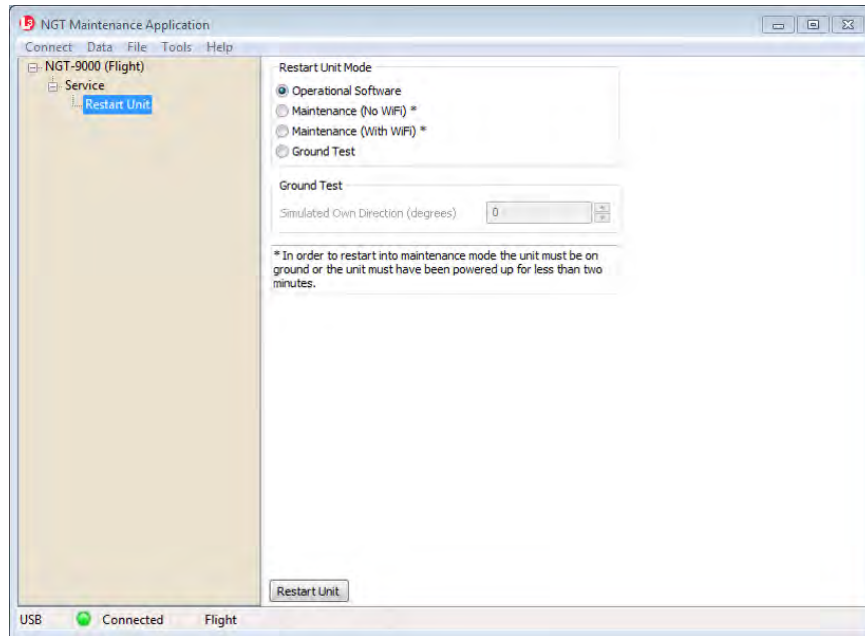

Figure 3-4: Lynx MAT – Restart Unit
- a. From the Lynx MAT panel select Service→Restart Unit. See Figure 3-4.